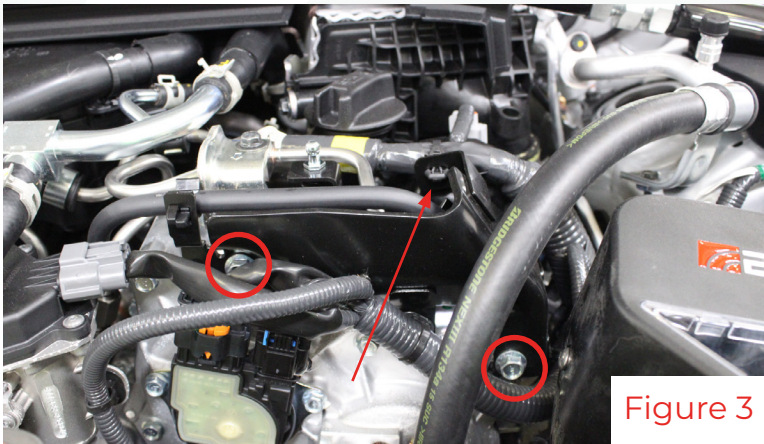
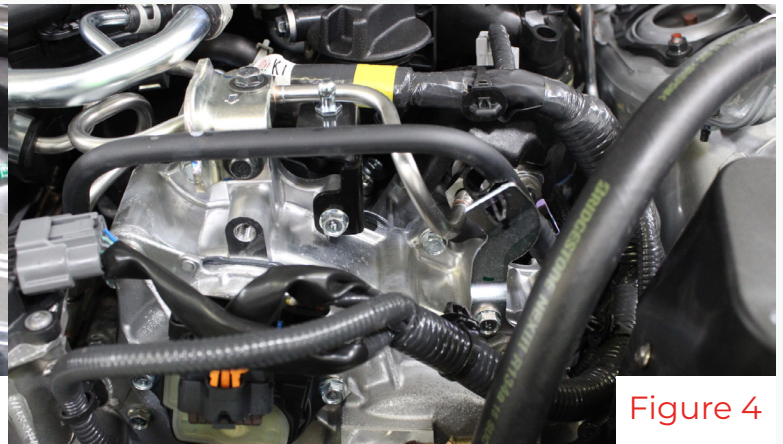

Figure 3
Figure 4
3. Unclip the harness from the bracket(arrow fig 3) and remove two bolts holding the bracket near the HPFP(circled fig 3). Remove the bracket(fig 4).